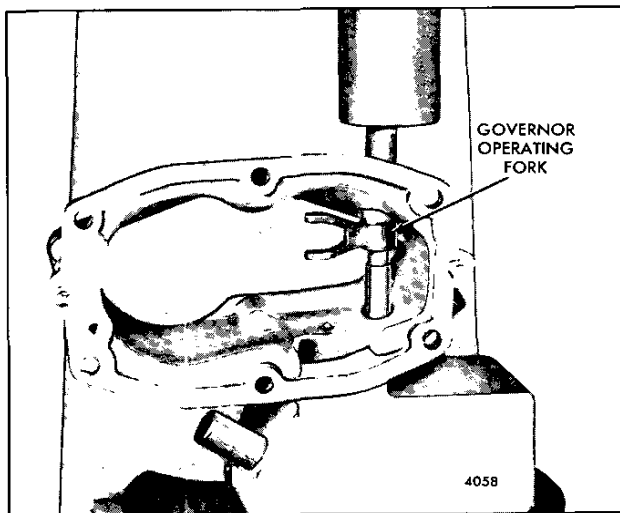

Fig. 16 – Installing Governor Operating Fork on Shaft
4. Support the operating shaft and governor housing on the bed of an arbor press with the upper end of the shaft resting on a steel block (Fig. 16). Align the flat in the fork with the flat on the shaft, then place a sleeve over the shaft and against the fork. Press the fork tight against the shoulder on the shaft or against the fork spacer. Install the set screw and lock screw, if used, in the fork.